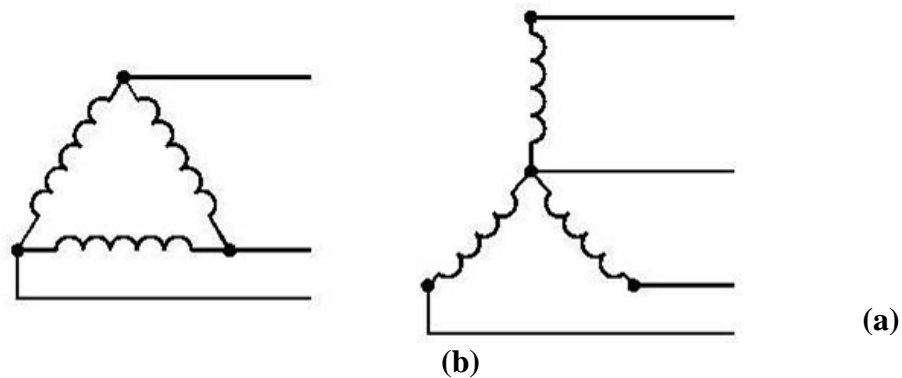

Figure 4.1: (a) Delta Connection (b) Wye Connection
Three phase uncontrolled rectifier can be easily assembled with the help of diodes. Wye connection is needed at the secondary of transformer for this practical. A delta ( $\Delta$ ) connection can be converted into wye (Y) connection with the help of transformer as shown in figure 4.1. Step down transformers will be used in order to work on lower voltages.